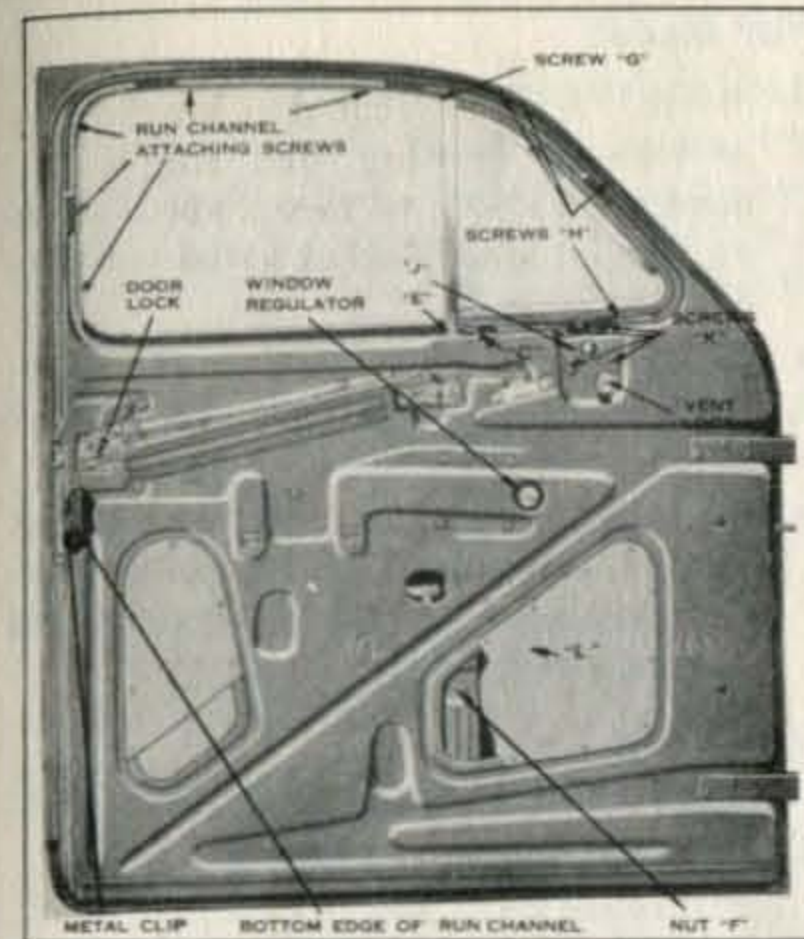

Fig. 27. "L" Front Door—Inside View
- Remove four ventilator to door frame screws "H." (See Fig. 27.)
- Entirely remove attaching screws "K." (See Fig. 27.)